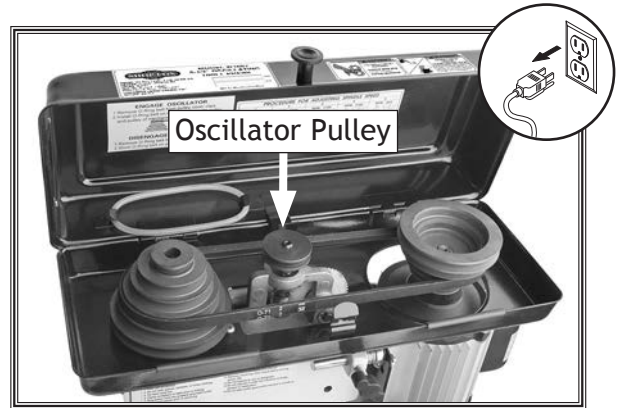
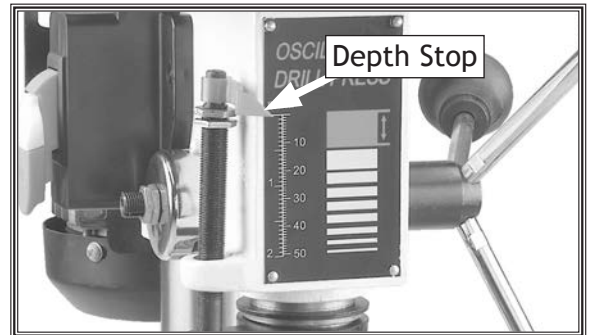

Figure 30. Location of oscillator pulley.
Figure 31. Depth stop pointing to "0".
3. Rotate oscillator pulley (see Figure 30) until depth stop reads "0" (see Figure 31), then close belt cover.